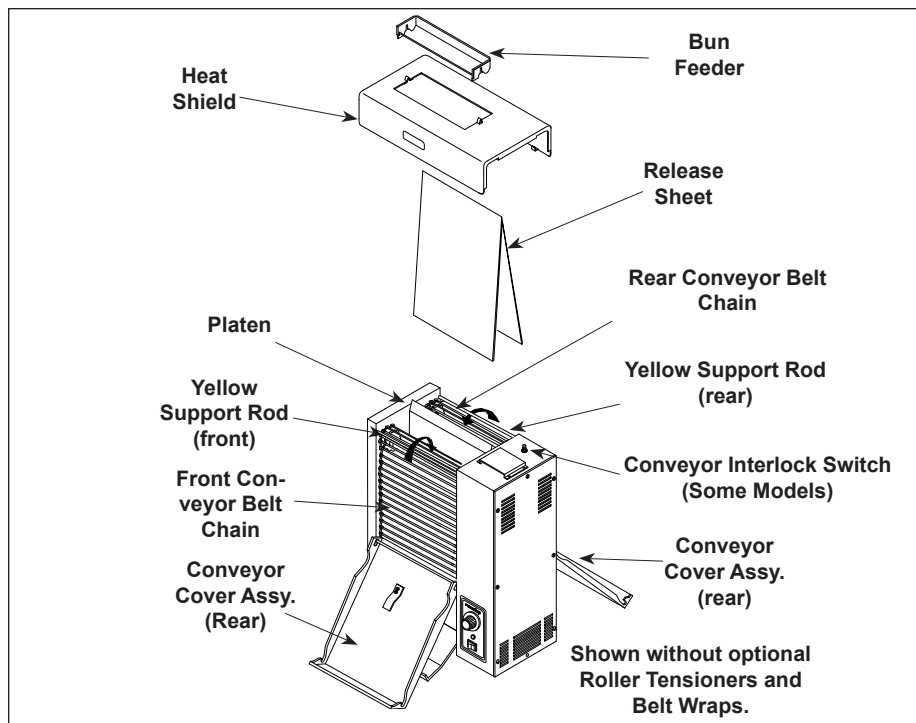
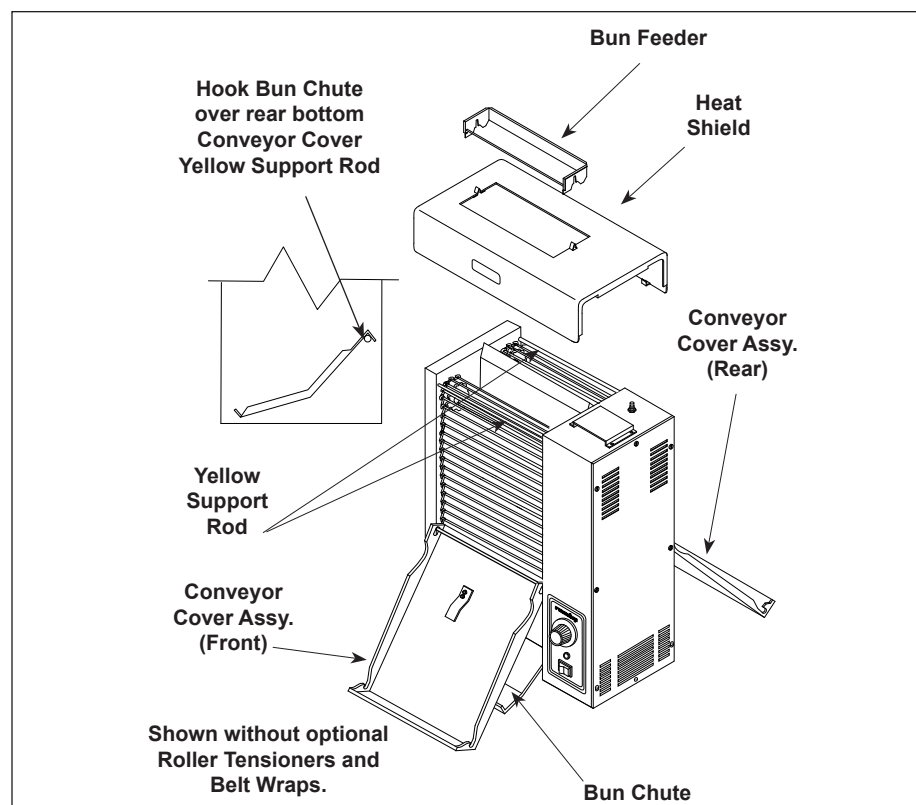

Figure 1. Toaster and Accessories
Figure 2. Installing Bun Chute
- Bun Feeder (Figure 1)
- Bun Chute (Figure 2)
- Two Release Sheets (Figure 1)
NOTICE: The factory has pre-installed a Release Sheet over the Platen (Figure 1). Verify that it is properly in place before proceeding.
1. Install the Bun Feeder (Figure 1) and Bun Chute (Figure 2).
2. Put on heat resistant gloves. Remove the Bun Feeder, Heat Shield, and Bun Chute (Figure 1).
2. Remove the Bun Feeder, Butter Wheel, Pan, and Heat Shield (Figure 1) and set the Bun Thickness Compression Knobs to 6 & 6 or 6 & F.